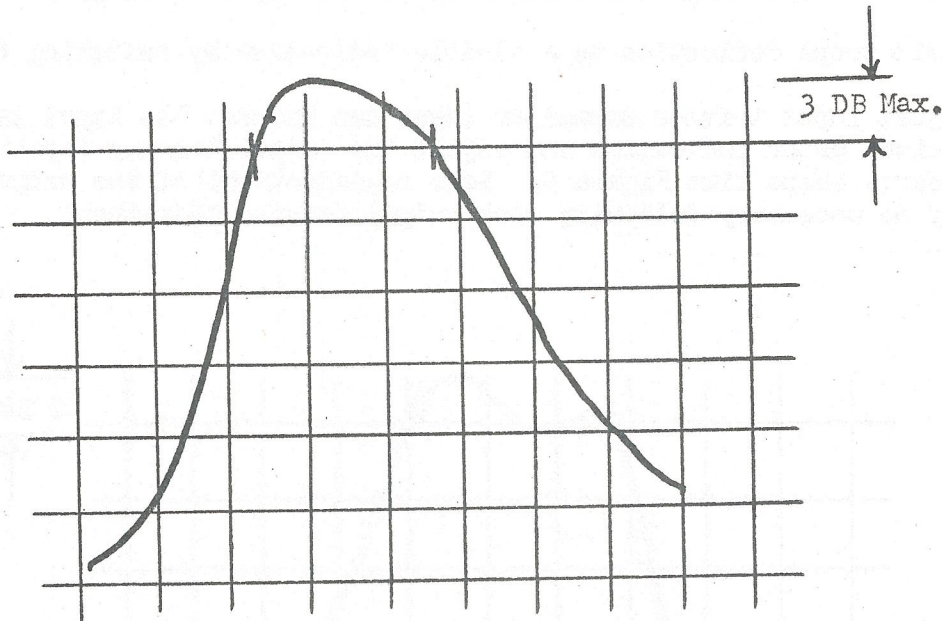

Figure 10.
14. Switch Pad B to minimum and increase Pad A setting to give a scope indication equal to standardization. Note the shape of the curve and the Pad A settings. The shape should conform to Figure 10, and the pad setting should be at least 54 DB for the high channels, and 50 DB for the low channels.
2. Curve of Figure 10 shall not have more than 3 DB difference from maximum to minimum points within the pass band between picture and sound carriers.